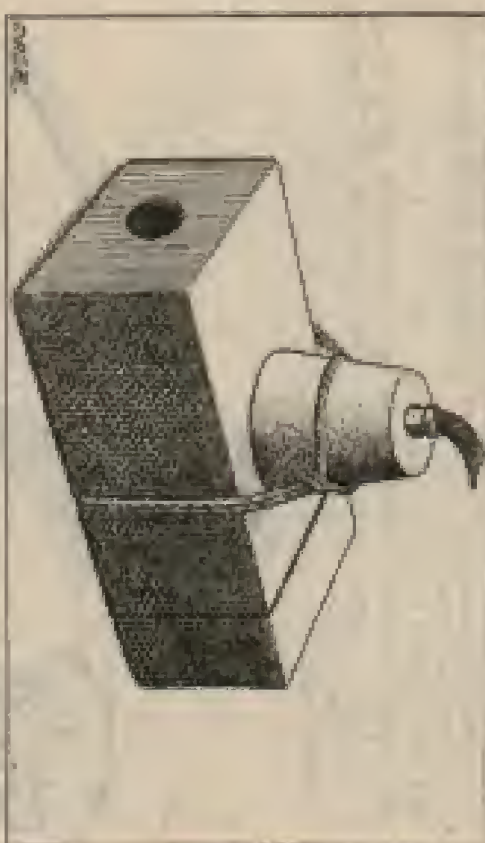

Fig 4. CE/TNT slab with primer, detonator and safety fuze
(b) *Initiation*.—The slab is satisfactorily initiated with a 1 oz. primer loaded on as shown in Fig. 4.
- (i) *Igniter, safety fuse, percussion.* (See Fig 4).—